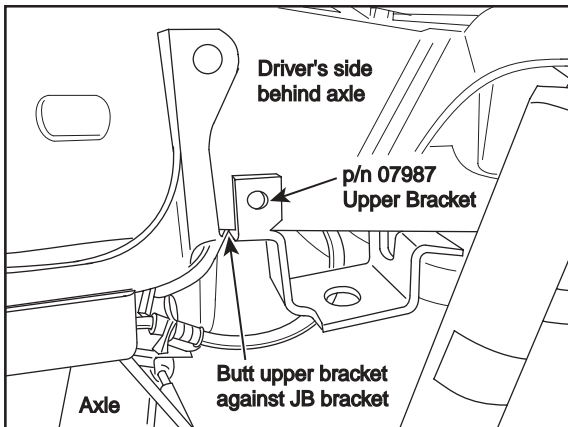

Figure 2
4. Using the two holes in the bracket as a template, drill (2) two $\frac{3}{8}$ " holes for each bracket into the side and bottom of the frame as shown (Figure 2).
If the vehicle has a rough and harsh ride it may be due to either too much pressure or not enough (fig. 2). Try different pressures to determine the best ride comfort.